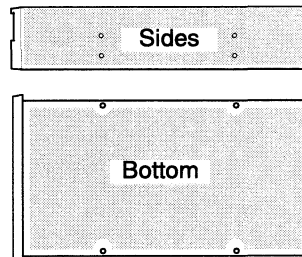

Figure 4 Threaded mounting holes for attaching the 5-1/4 inch CD-ROM drive inside the computer or mass-storage subsystem
3. Mount the drive in your computer or mass-storage subsystem. Figure 4 shows the threaded mounting holes on the side of the drive and on the bottom. Carefully follow all procedures in the installing or setting up manual for your computer or mass-storage subsystem.